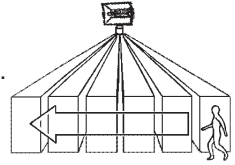

Fig. 1
- Locate fixture so motion moves across detection zone (Fig. 1).